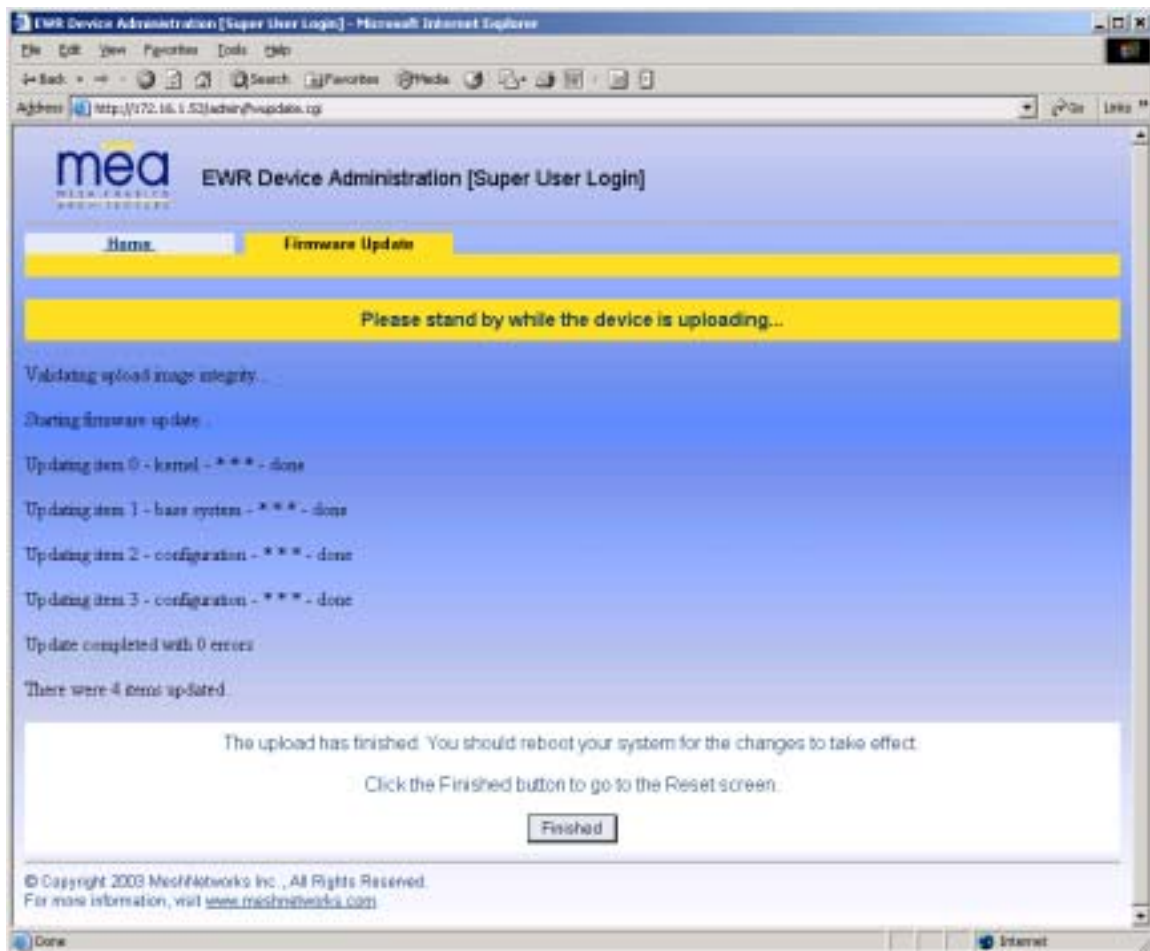

Figure 3-17. Firmware Upload Progress Web Page
Note: The C-Clamp Bracket Assembly requires two 3 1/2 x 1/4 inch stainless steel bolts to secure the C-Clamp to a mounting pole. Each bolt is supplied with (2) stainless steel flat washers, (1) lock washer, and (1) stainless steel nut. The bracket hardware should be installed as indicated in Figure 3-17.